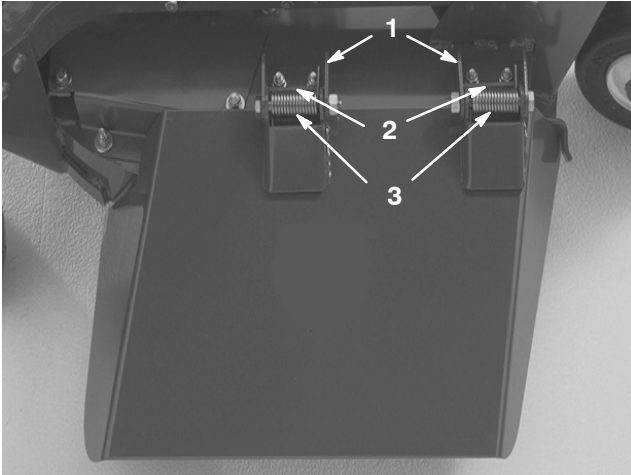

Figure 34
2. Remove the 2 capscrews, locknuts, and springs securing the deflector mounts to the pivot brackets (Fig. 34).
3. To remove the pivot brackets, remove the carriage bolts and nuts (Fig. 34).